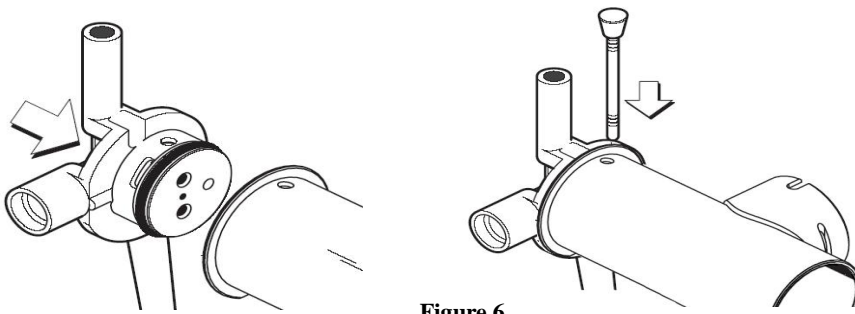

Figure 6
- d、 Insert the pump cover assembly into the end of the mix pump by the pin . ( Figure.6)